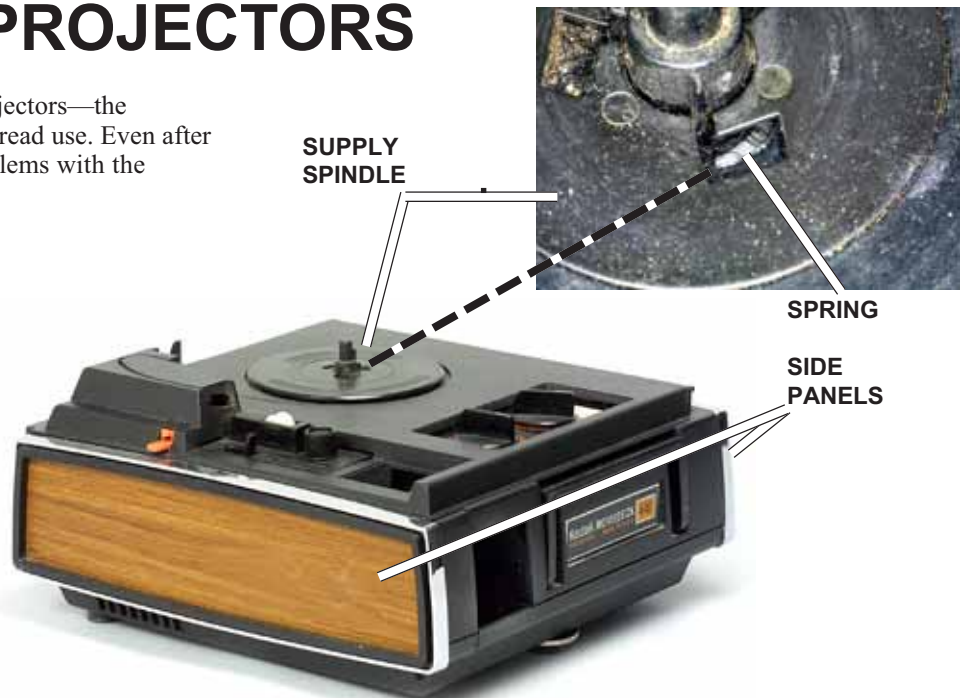

FIG. MD1 The Moviedeck 447. All the projectors in the Moviedeck series are very similar to one another.
1. Pull off the two side covers, Fig. MD1. **Caution:** the legs on the side covers that clip to the projector can break.
2. Remove the supply spindle, Fig. MD1. Just use your probe to move the spring, Fig. MD1, from right to left—then lift the supply spindle straight up.